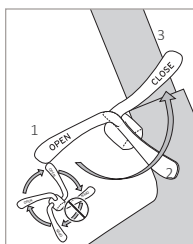

FIGURE 3.11
1. Move the lever of the quick-release to the adjustment position (Figure 3.11), and tighten the adjustment-nut on the other side of the seatpost clamp until it is slightly tight.
2. Lock the quick-release; with the lever in the palm of your hand, move the lever as shown in Figure 3.11 to the CLOSE